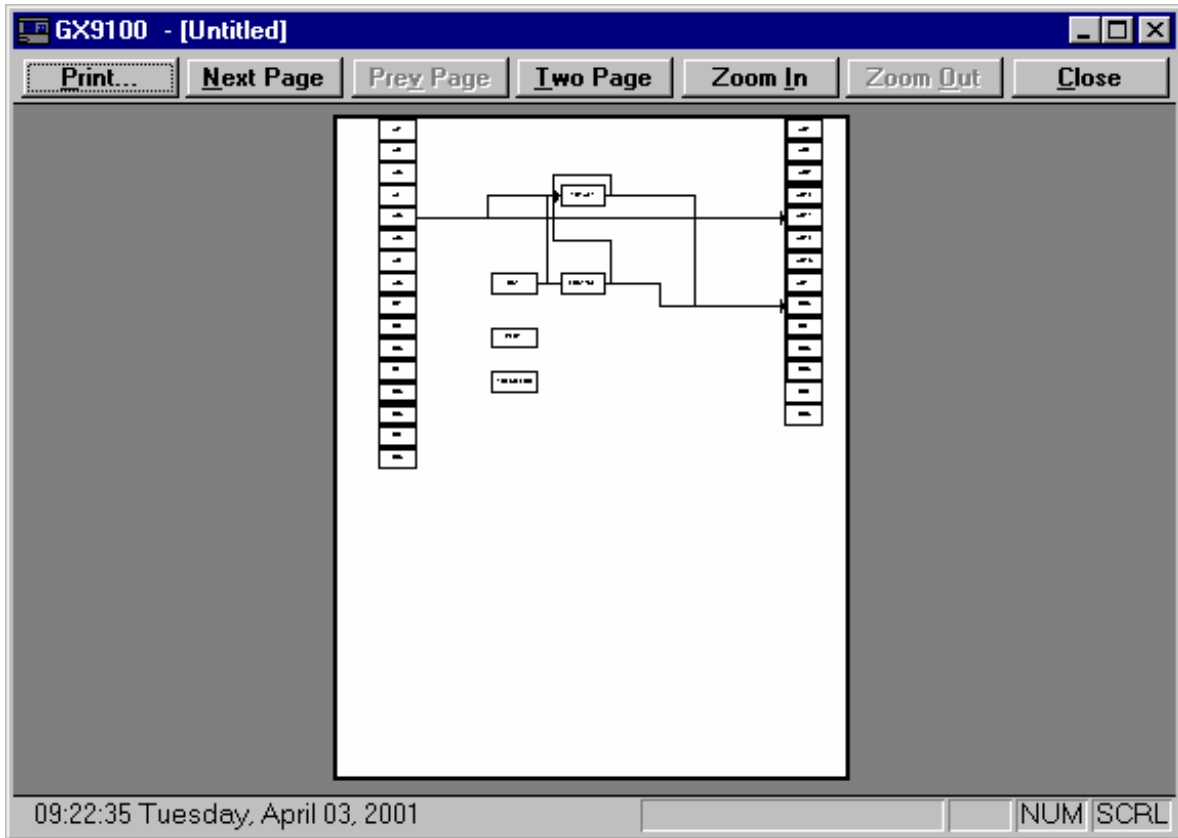

Figure D-4: Print Preview Example
3. Click OK. A print preview screen appears (Figure D-4).